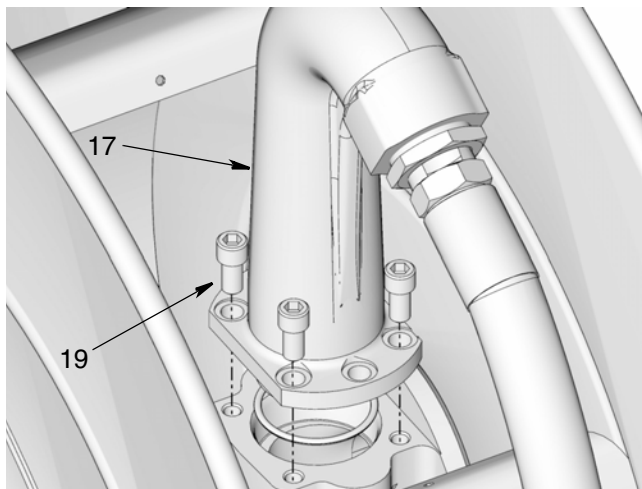

FIG. 75
- a. Actuate free-spool and release brake by turning the brake knob (41) to the left to decrease / loosen brake tension.
5. With hose still attached to outlet, remove screws (19) and outlet (17) from spool (FIG. 75).